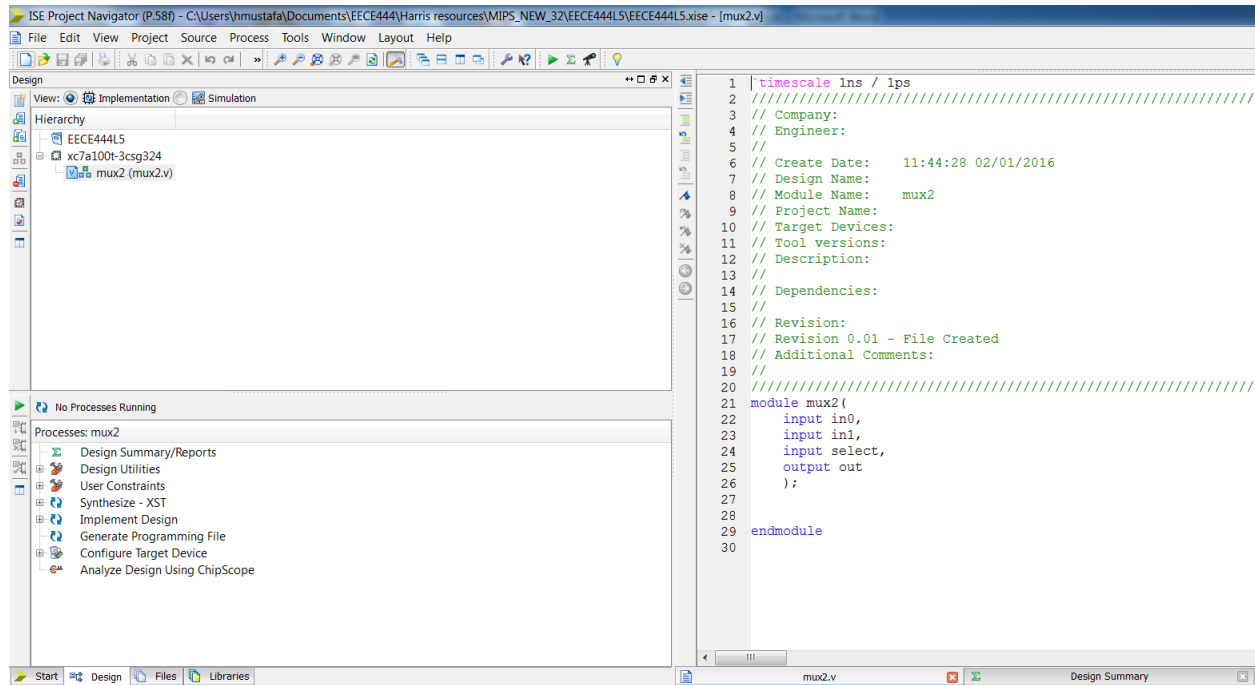

Figure 2
7. Click Next, then Finish in the New Source Information dialog box to complete the new source file template, as shown in figure 2.